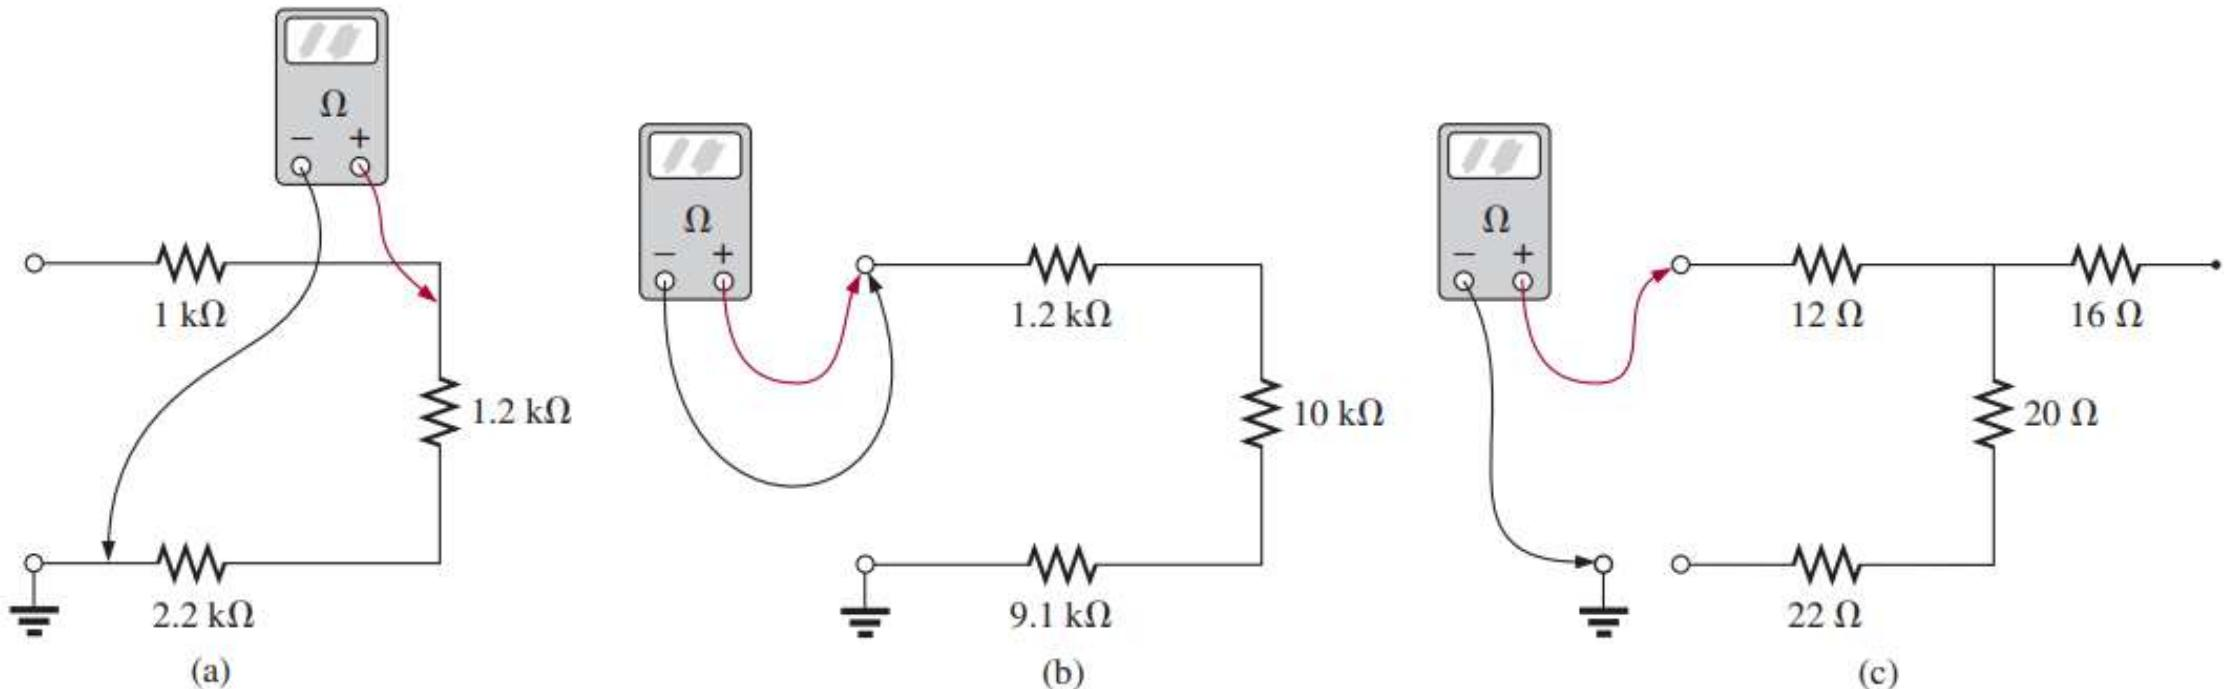

FIG. 5.95
9. What is the ohmmeter reading for each configuration in Fig. 5.95?